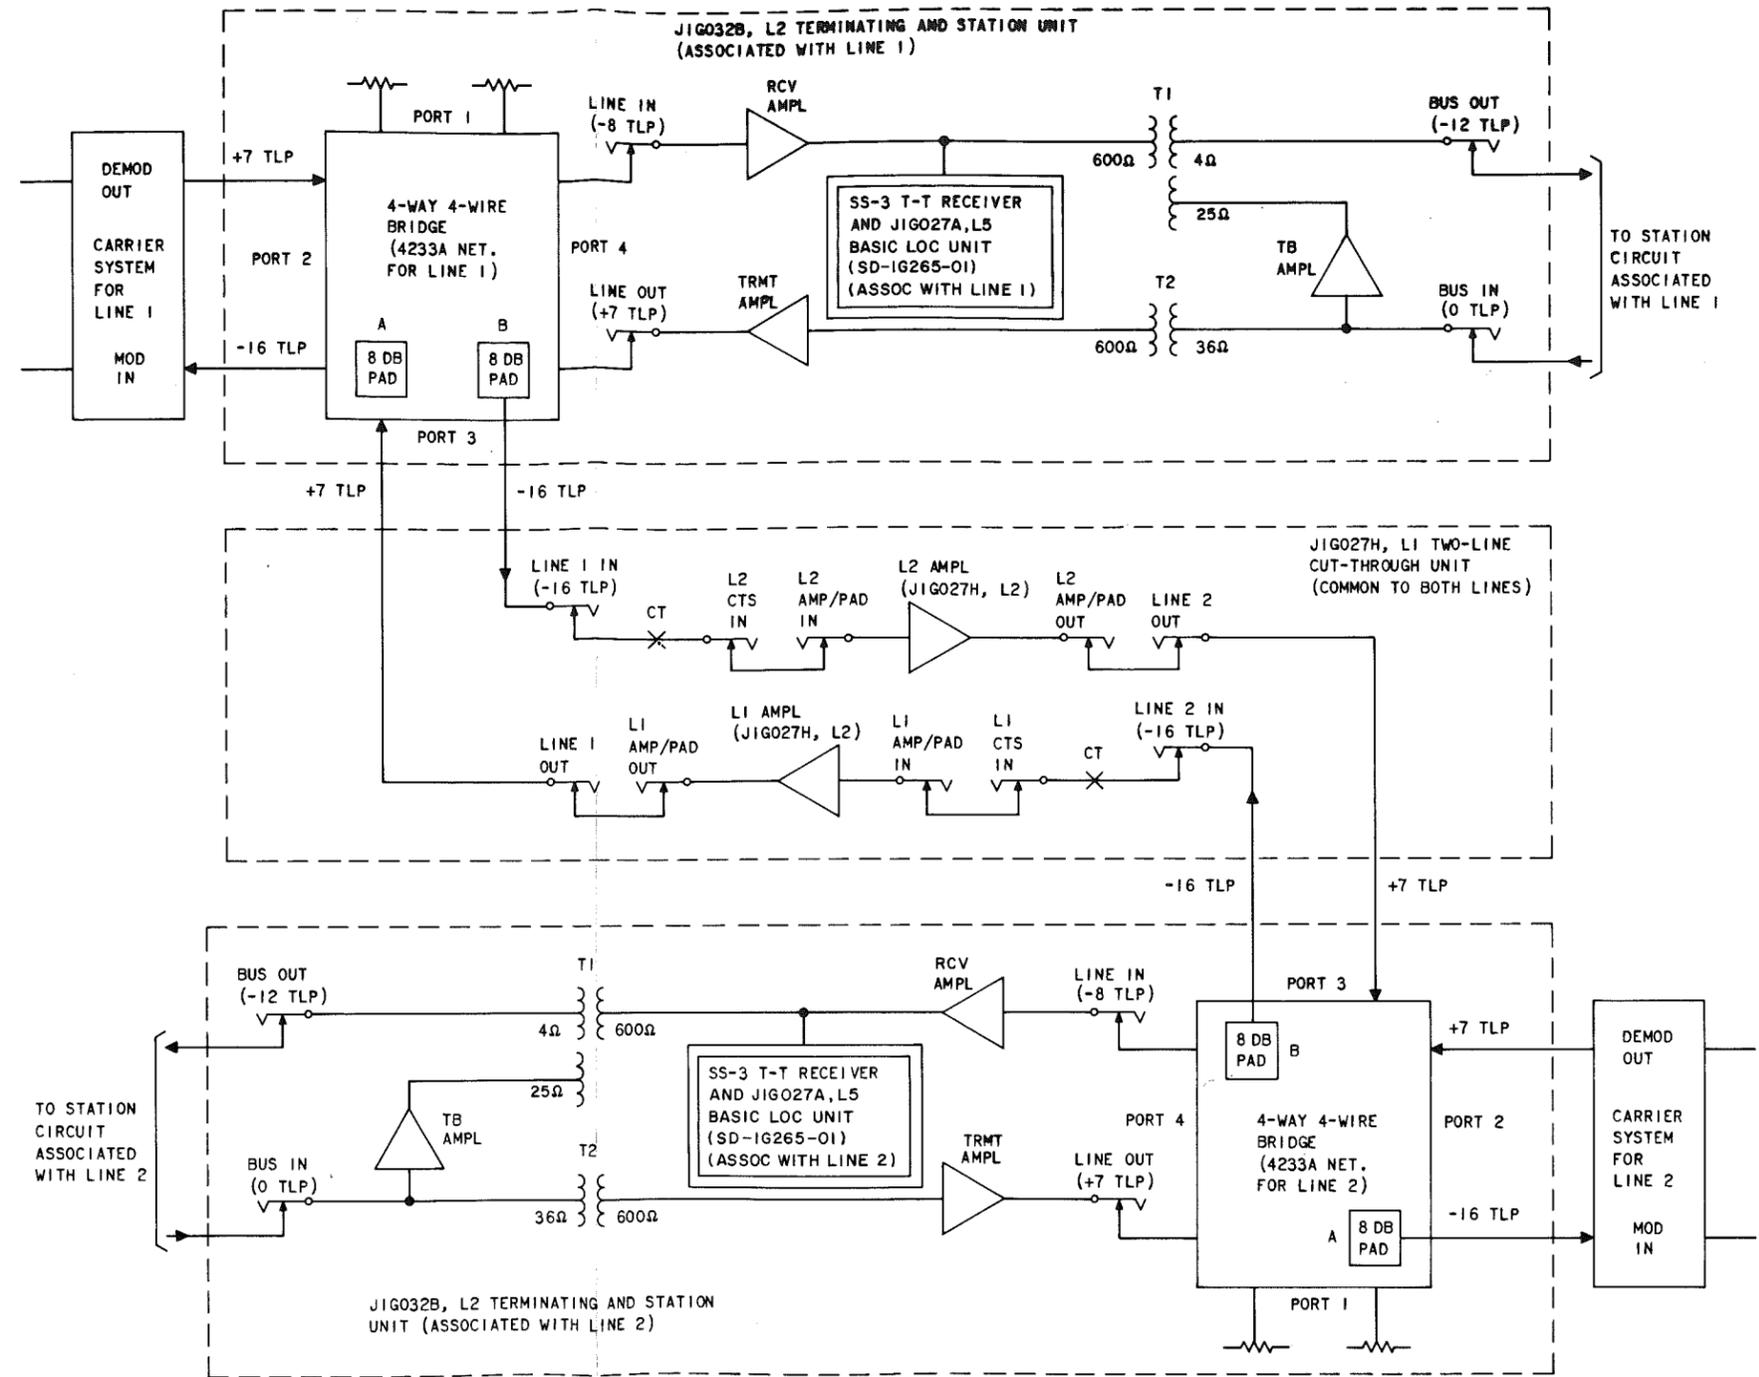

Fig. 5—Two-Line Cut-Through Switch—With Terminating and Station Equipment on Both Lines
**2.11** When a terminating and station circuit is associated with each of the two lines, individually adjust the equipment on each line as follows (Fig. 5):
- (1) Adjust the terminating and station unit J1G032B, L2 associated with each line as outlined in 2.05 with the exception of substituting the following for 2.05(7):
- (a) Adjust the GN ADJ pad (A on Fig. 5) for port 2 on the 4233A network to obtain a detector reading of  $-16$  dBm at the carrier terminal input.
- (b) Connect the detector input to the LINE 1 (2) IN jack on the J1G027H, L1 unit.
- (c) Adjust the GN ADJ pad (B on Fig. 5) for port 3 on the 4233A network to obtain a  $-16$  dBm reading on the detector.
- (2) Perform the procedures outlined in 2.06 for the basic location unit J1G027A, L5 associated with each line.
- (3) Perform the following on each of the amplifiers (L1 and L2) located on the J1G027H, L1 unit:
- (c) Insert the oscillator output into the AMP/PAD L1 (2) IN jack and the detector input into the AMP/PAD L1 (2) OUT jack.
- (d) Adjust the L1 (2) amplifier to obtain a 0 dBm reading at the detector.
- (4) Perform the procedures outlined in 2.07 for each station circuit unit AR706 that is associated with each line.
- (5) Perform the procedures outlined in 2.09(6), (7), and (8) to verify the operation of the cut-through switch.
- (6) Disconnect and remove the test equipment.